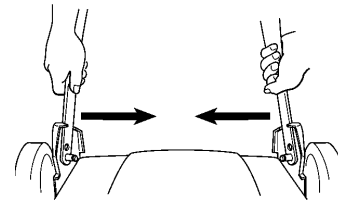

Figure 43
1. Squeeze the bottom handle sections together and slide them past the stops on the handle brackets (Fig. 43).